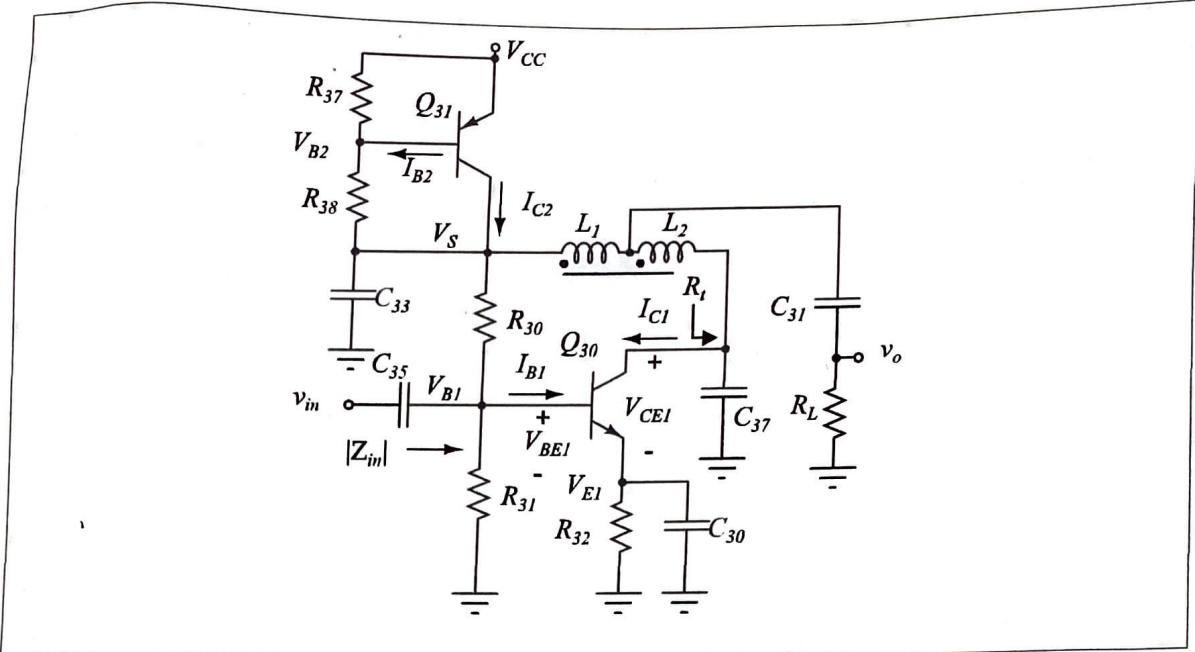

Figure 1: Schematic of transmitter amplifier.
1. A tuned RF amplifier that acts as the transmitter amplifier of TRC-11 can be built using a BJT, Q30. BJT to be used is a more powerful NPN transistor, 2N2222. Inspect the datasheet given in 368. It can handle currents up to 600 mA and voltages up to 40 V. It can dissipate up to 625 mW power at room temperature. These values are considerably high compared to KSP10 used earlier. Refer to the circuit given in Fig. 1. It is a Class-A power amplifier intended to drive an antenna. R_L is the load to be driven (it is actually the real part of the antenna impedance to be discovered later). The power delivered to R_L is the transmitted RF power into the air when the antenna is used. Actually, the output power is intentionally kept low, not the violate local RF transmission limits in this frequency band. C_{31} is a DC block capacitor. L_1 , L_2 and C_{37} form a impedance transformation network, that transforms R_L into an optimal impedance for the transistor.